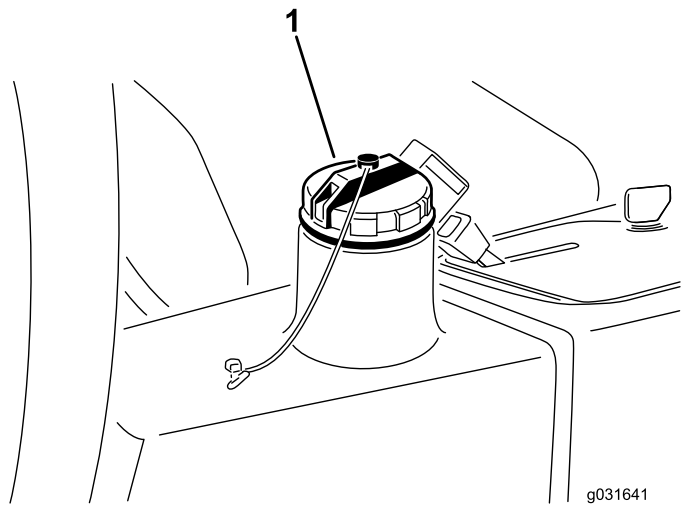

Figure 58
2. Clean the area around the filler neck and hydraulic-tank cap (Figure 58).
3. Remove the hydraulic-tank cap (Figure 58).